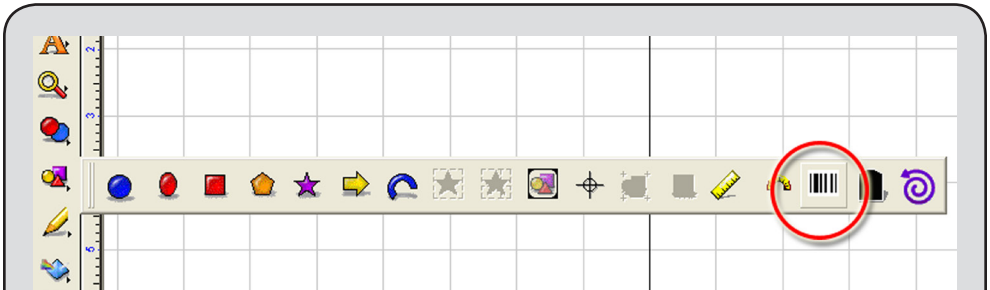

Fig. 61 - Create barcodes from the **Shape Tools** flyout.
1. From the **Shape Tools** flyout, choose **Wasp Barcode** (Fig. 61).